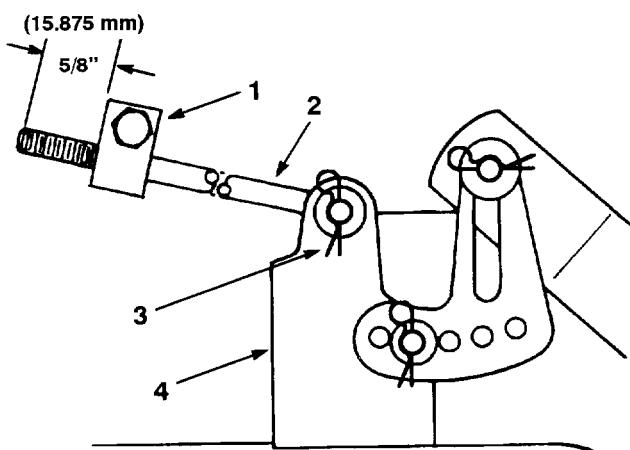

Figure 51
6. Measure the length of the rod extending out the front of the adjusting block on the sides of the chassis (Fig. 51). If the rod length is not 5/8" (15.875 mm), remove the hair pin cotter and washer from the end of the rod (Fig. 51), and turn the rod until the 5/8" (15.875 mm) dimension is obtained. Then install the end of the rod into the hole in the mower mount and secure in place with washer and hair pin cotter. Repeat this procedure on the opposite side of the mower.
8. Raise or lower the front of the mower by adjusting the length of the long rod and reinstalling it in the mower mount with the washer and hair pin cotter (Fig. 51). Adjust one side, then the other. After adjusting both rods, check the front-to-rear slope again. Continue to adjust the rods one turn at a time until the front of the mower is  $1/8"$  to  $3/8"$  (3.175 mm to 9.525 mm) lower than the rear of the mower.